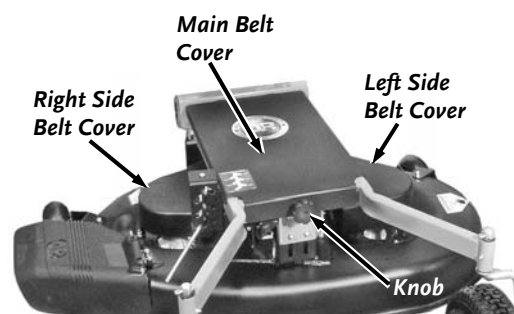

Figure 7
**NOTE:** Your Lawn Deck is shipped with the Belt in place on the two Blade Drive Pulleys. Occasionally, the Belt comes off during shipping. If this occurs, remove the Left and Right Side Belt Covers from the Deck (Figure 7) with a 7/16" Wrench and place the Belt back on the Pulleys.
1. Remove the Front Knob and the Main Belt Cover (Figures 7).